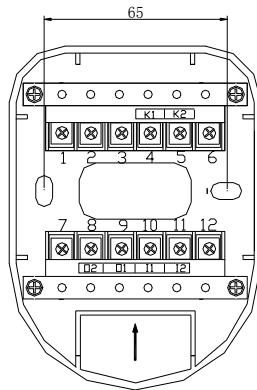

Fig.4 Terminals
2. When installing, unplug the MCP, thread the cable through the wiring hole of the base box and connect it to the corresponding terminal, plug the MCP to finish installation. The mounting hole distance is 65mm (Fig.4). The base of the MCP can be surface mounted or flush mounted as shown in Fig.2 and 3.
3: Terminals of the MCP are shown in Fig.4.